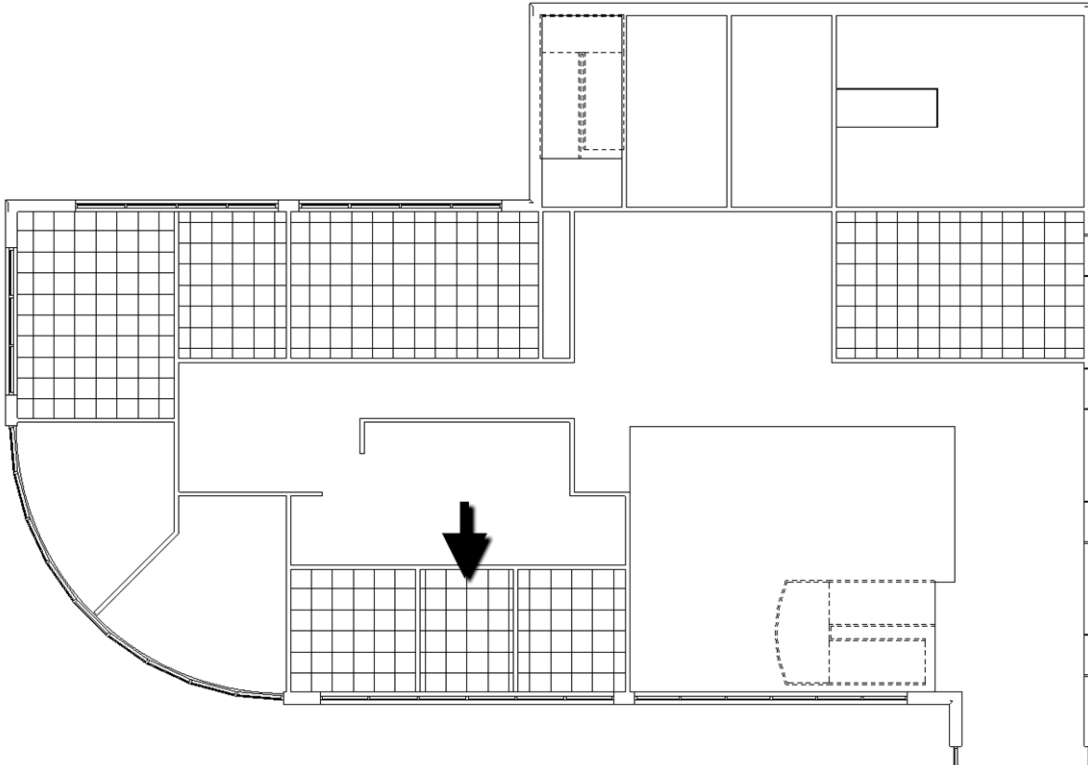

Figure 7-4.6: Level 1 Ceiling Plan view: 2'x2' suspended acoustical ceiling tile added to rooms.
9. Use the **Ceiling** tool to place 2'x 2' acoustic ceiling tile (ACT) at 8'-0" above finished floor (AFF) in the rooms shown (Figure 7-4.6).
When you place a ceiling grid, *Revit* centers the grid in the room. The general rule of thumb is you should try to avoid reducing the tile size by more than half of a tile. You can see in Figure 7-4.6 that the East and West sides are small slivers for the center office on the South exterior wall. You will adjust this next.
11. **Select** the ceiling grid identified in Figure 7-4.6. Only one line will be highlighted.